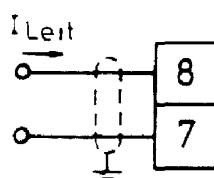

Fig. 6
c) Speed signal by isolated current loop. Terminals 8 and 7 can be used to feed in an isolated control current in accordance with fig. 6 provided that control board 6011 is modified as follows: